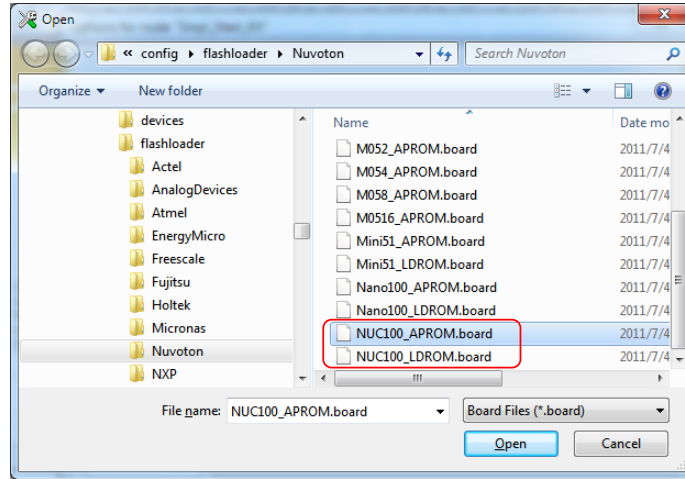

Figure 4-18 Select.board File for IAR EWARM
Step 6: In the **Download** tab of the **Debugger** page, select the **Override default .board file** option if you want the firmware to be downloaded to APROM or LDROM, and then specify the *NUC100_APROM.board* or *NUC100_LDROM.board* file (NUC100 series is used in this case). If no file is founded, specify the following path "*\$TOOLKIT_DIR\$\\config\\flashloader\\Nuvoton*", as shown in Figure 4-18.